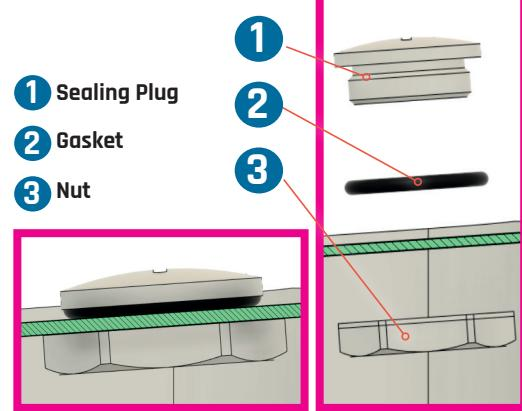

Fig. 15: Structure of screw fitting
- Observe the correct position of the gasket: see Fig. 15